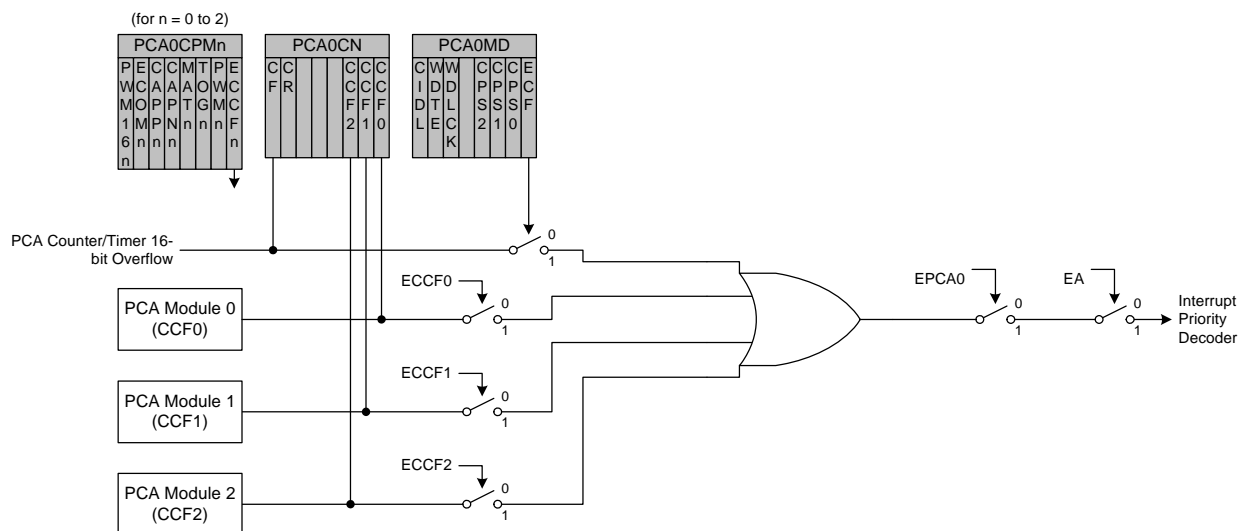

Figure 26.3. PCA Interrupt Block Diagram
Figure 26.3 shows a diagram of the PCA interrupt tree. There are four independent event flags that can be used to generate a PCA0 interrupt. They are: the main PCA counter overflow flag (CF), which is set upon a 16-bit overflow of the PCA0 counter, and the individual flags for each PCA channel (CCF0, CCF1, and CCF2), which are set according to the operation mode of that module. These event flags are always set when the trigger condition occurs. Each of these flags can be individually selected to generate a PCA0 interrupt, using the corresponding interrupt enable flag (ECF for CF and ECCFn for each CCFn). PCA0 interrupts must be globally enabled before any individual interrupt sources are recognized by the processor. PCA0 interrupts are globally enabled by setting the EA bit and the EPCA0 bit to logic 1.